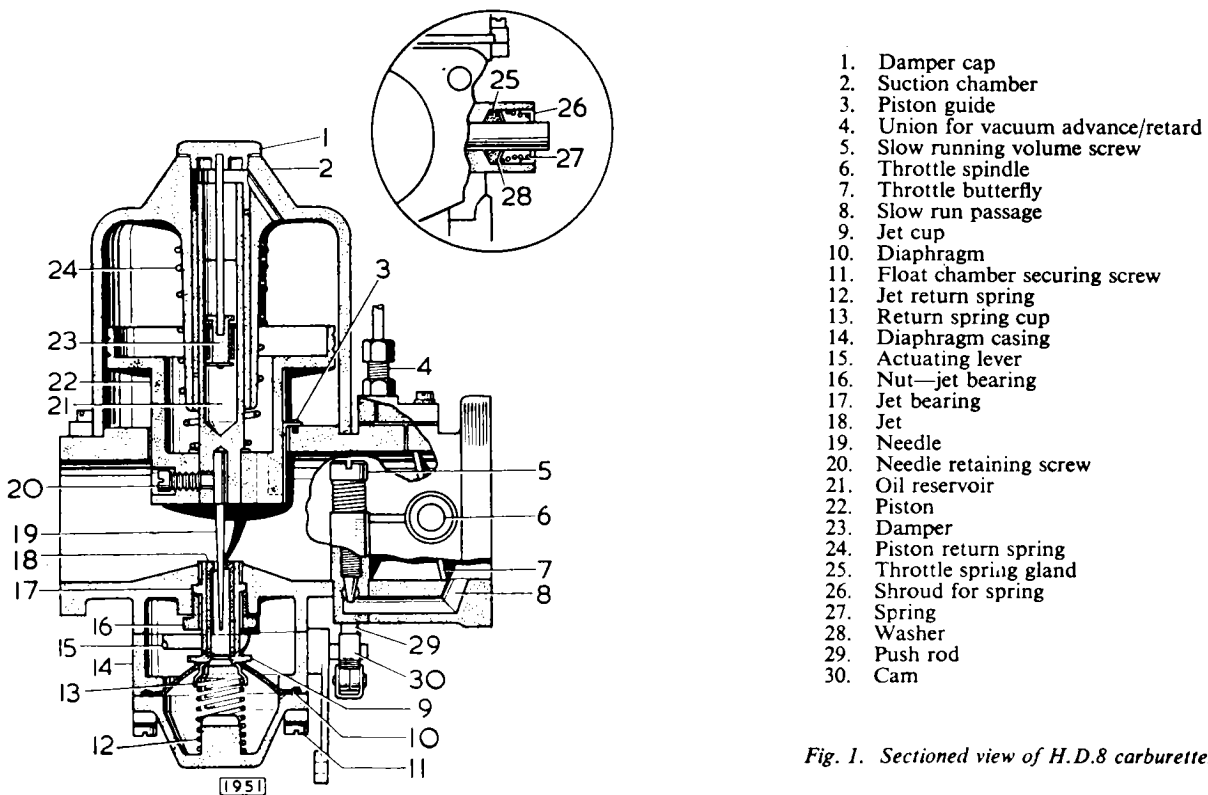

Fig. 1. Sectioned view of H.D.8 carburetter
The jet (18) (Fig. 1), which is fed through its lower end, is attached to a synthetic rubber diaphragm (10) by means of the jet cup (9) and jet return spring cup (13), the centre of the diaphragm being compressed between these two parts; at its outer edge it is held between the diaphragm casing (14) and the float chamber arm. The jet is controlled by the jet return spring (12) and the jet actuating lever (15), the latter having an external adjusting screw which limits the upward travel of the jet and thus controls the mixture adjustment; screwing it in (clockwise) enriches the mixture, and unscrewing it weakens the mixture.
Provision is made for the use of throttle spindle glands consisting of the cork gland itself (25) (Fig. 1), a dished retaining washer (28), a spring (27) and a shroud (26). This assembly should not require servicing and can only be removed by dismantling the throttle spindle and disc.
The carburetter idles on the main jet and the mixture is conducted along the passage way (8) (Fig. 1) connecting the choke space to the other side of the throttle disc.